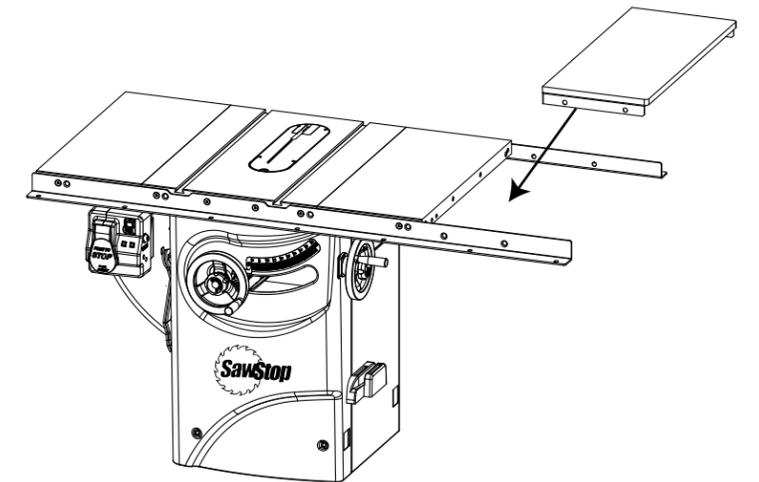
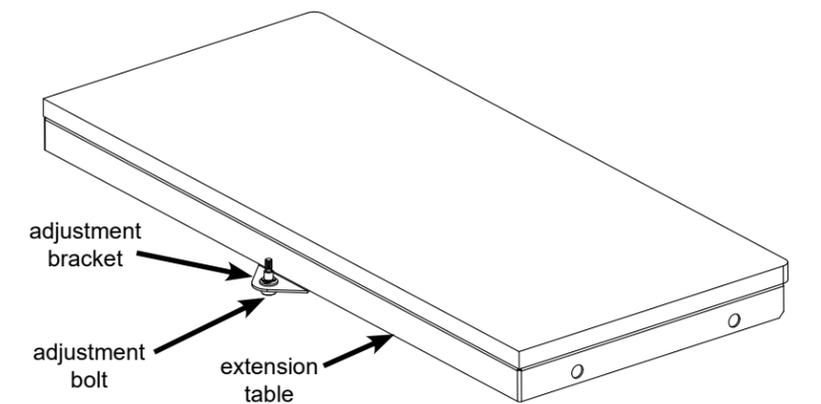

Fig. 9a
Fig. 9b
9. The next step of the assembly is easiest with two people. Position the extension table between the front and rear rails (see Fig. 9a). Make sure that the table is oriented so that the adjustment bracket is closest to the right extension wing. Tilt the extension table slightly so that the adjustment bracket can fit under the edge of the extension wing. Position the extension table so that the end of the adjustment bolt (shown in Fig. 9b) aligns with the corresponding threaded hole in the extension wing. With the weight of the extension table still supported, turn the adjustment bolt until the extension table is roughly flush with the extension wing.